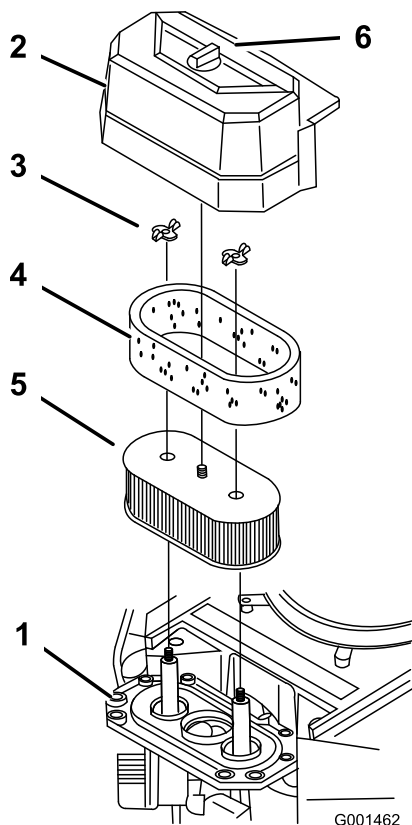

Figure 28
3. Clean around the air cleaner to prevent dirt from getting into the engine and causing damage (Figure 28).
4. Unscrew the cover knob and remove the air cleaner cover (Figure 28).
- Remove the 2 wing nuts and remove the air cleaner assembly (Figure 28).
- Carefully pull the foam element off the paper element (Figure 28).
- Do not clean the paper filter. Replace it after 200 operating hours (Figure 28).
- Carefully slide the foam element onto the paper air cleaner element (Figure 28).
- Place the air cleaner assembly onto the air cleaner base and secure it with the 2 wing nuts (Figure 28).
- Place the air cleaner cover into position and tighten the cover knob (Figure 28).